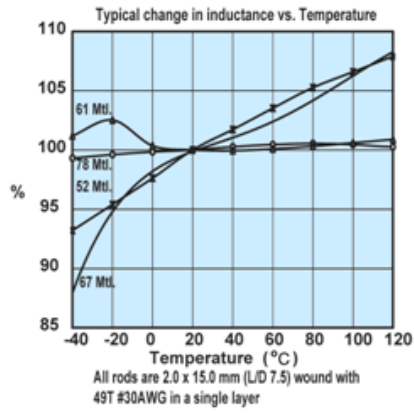
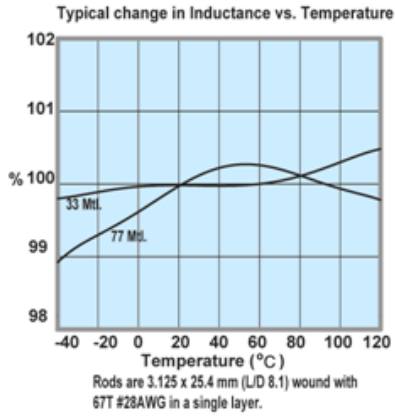
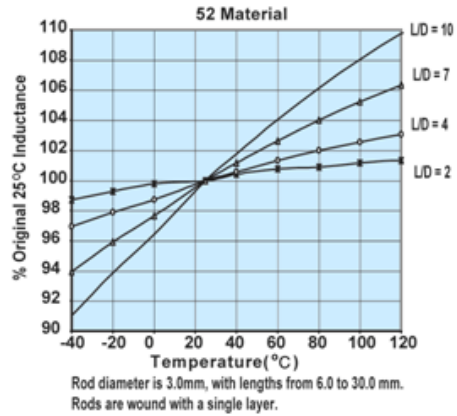

Figure 3
Figure 4
Figure 5
**Figures 3, 4 and 5 illustrate typical temperature behavior of wound rods. Would rods in 33 and 77 material yield the best temperature stable inductors, see Figure 4. Both show a typical inductance change of <1% over the -40° to 120°C temperature range. The parts have a L/ D ratio of 8.1. Lower ratios will change less. This is shown in detail in Figure 5 for the same 52 material but with the L/ D ratio as the parameter. A lower ratio means a lower rod permeability but with improved temperature stability.**